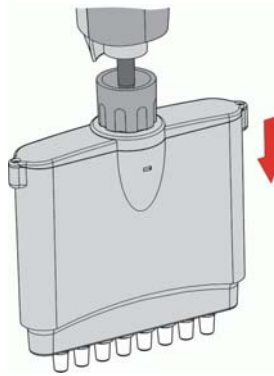

Figure 11: Pull the lower piston assembly downward slowly until the cylinder lock appears.
3. Pull the lower piston assembly downward slowly until the metal cylinder lock appears as shown in Figure 11.